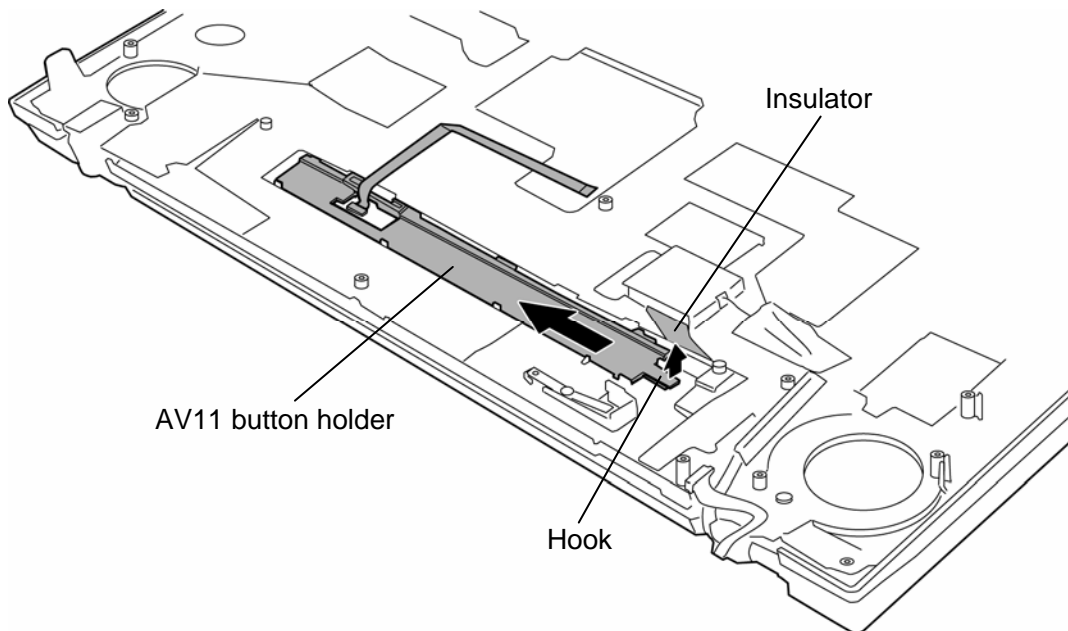

Figure 4-61 Removing the AV11 button holder
The following describes the procedure for removing the AV11 button (See Figure 4-61 and 4-62).
The following describes the procedure for installing the AV11 button (See Figure 4-61 and 4-62).
3. Install the **AV11 button holder** while sliding it to the opposite direction in the Figure 4-61.